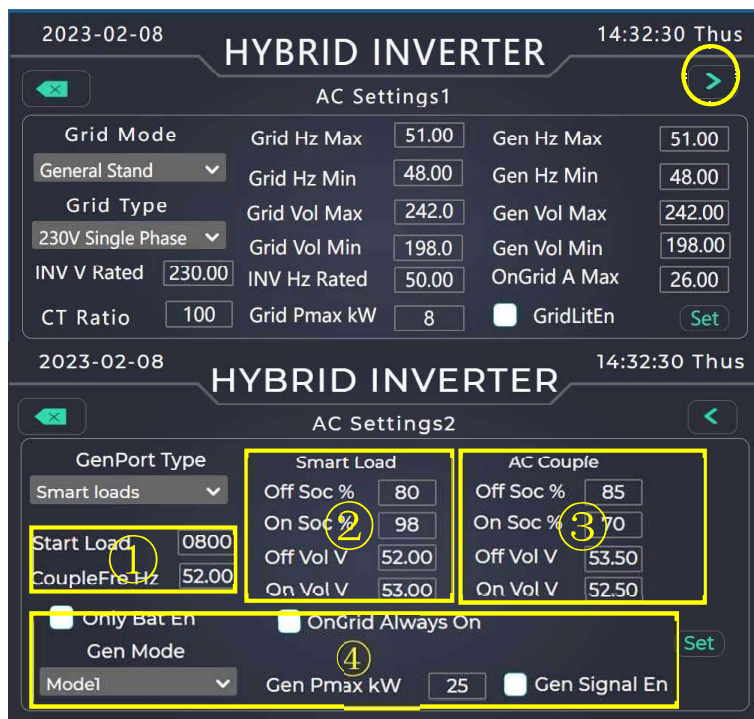

Figure 3.15 Grid Setting Interface
setting. This will affect ②,③ in that Figure 3.12 and ②,③ in that Figure 3.15 settings below.
Click "Grid Setting" to set grid related parameters, as shown in Figure 3.15, including grid standard, upper and lower limits of voltage frequency, upper and lower limits of voltage value, grid frequency, GEN interface type, CT transformation ratio, Grid power limit, Genport function setting, etc.
- When selecting the Gen connected to the GEN interface, please confirm that the control line of the Gen is also connected to the E~F terminal NO2&COM2 Gen adjustment control, the G~H terminal NO1&COM1 Gen start control, select GenPortType as Generator in the grid setting interface in Figure 3.15. At this time, Select Gen Mode, choose one of the two Modes, when the grid is powered off, the diesel generator will automatically start up to supply power to the system.
- When selecting the smart load connected to the GEN interface, select GenPortType as Smartloads in the grid setting interface in Figure 3.15, and the Gen relay will be turned on at this time, and the GEN interface will supply power to the smart load for output.
Definition of function settings in number ② in Figure 3.15:
- When selecting the AC Couple connected to the GEN interface, select AC Couple as GenPortType in the grid setting interface in Figure 3.15, and then AC Couple and the grid supply power to the system together.
Definition of function settings in number ①③④ in Figure 3.15:
Click the CT Ratio data box in the grid setting interface in Figure 3.15 to set the CT transformation ratio. When the model of transformer is 100:50mA, the interface value shall be filled with 100. If the transformer is 150:50mA, the value should be 150.